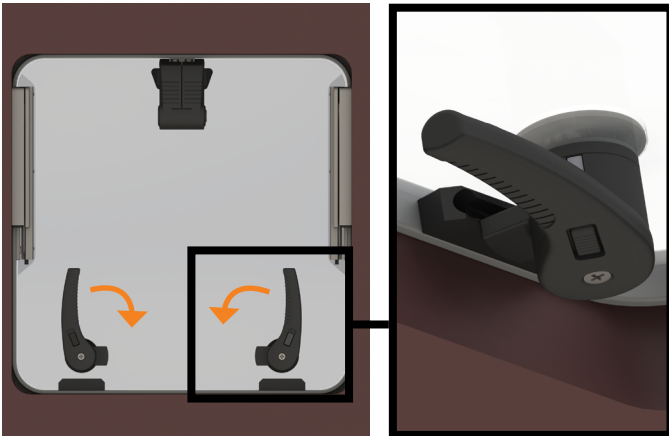

Fig.5
1. To lock the hatch, close it completely and turn the locking levers inward (Fig. 5).